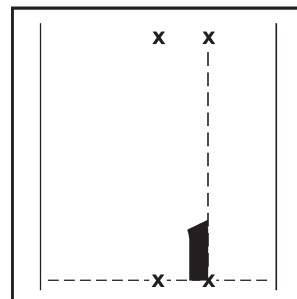

Figure 21
- Lay out the curve arrow base (liner still on) with the RIGHT edge against the chalk line and the base along the base line (see Figure 21).